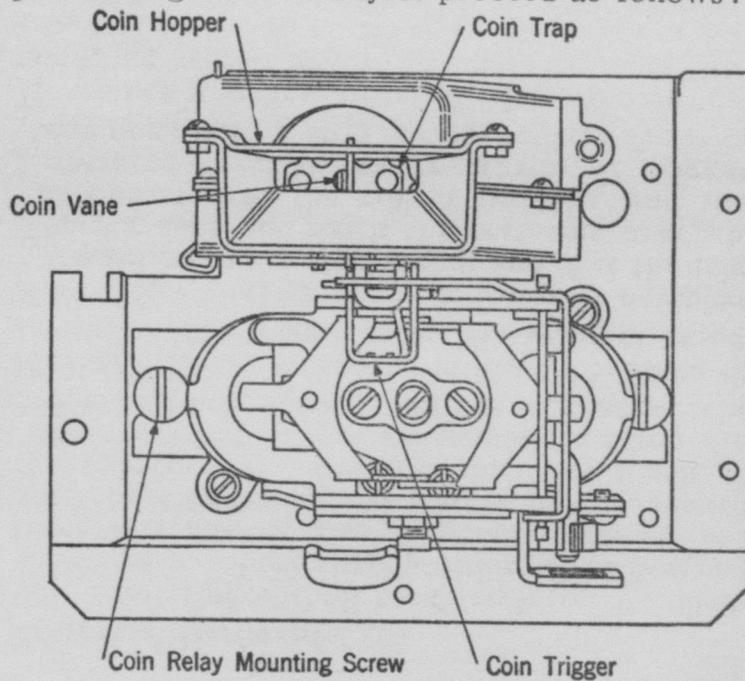

Fig. 13
5.09 The operating arm when in the normal position shall bring the coin vane in a vertical line so that the thickness of the vane may be seen through the center hole of the coin trap. See Fig. 13. To adjust proceed as follows: